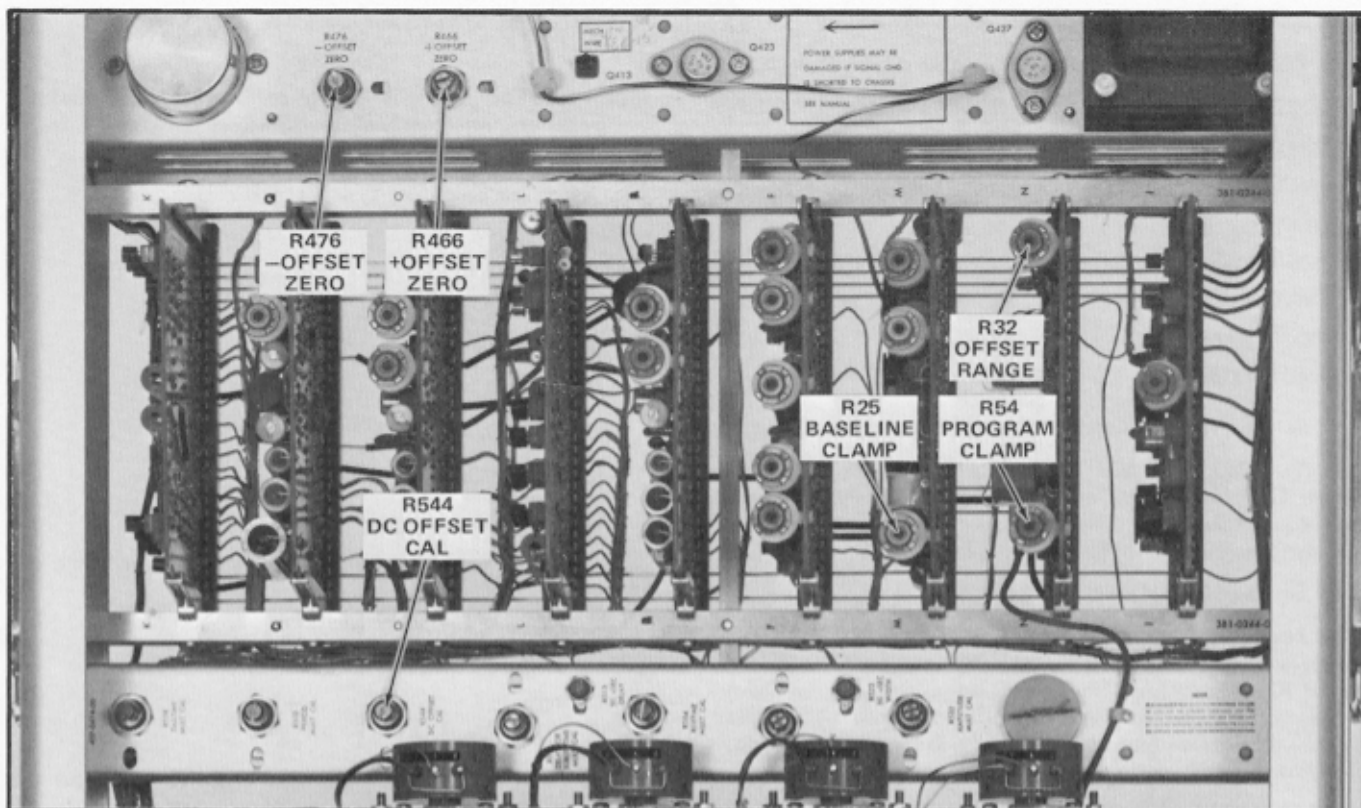

Fig. 6-7. Location of offset and baseline clamp adjustments on Attenuator and Output Amplifier circuit cards and on Type R116 chassis.
g. ADJUST—R32, the OFFSET RANGE adjustment on the Attenuator circuit card (see Fig. 6-7), if the offset range is not correct.
n. ADJUST—R466, the + OFFSET ZERO adjustment on the Type R116 chassis (see Fig. 6-7), if the offset level is not correct.
t. ADJUST—R476, the — OFFSET ZERO adjustment on the Type R116 chassis (see Fig. 6-7), if the offset level is not correct.
e. ADJUST—R25, the BASELINE CLAMP adjustment on the Output Amplifier circuit card (see Fig. 6-7), if the baseline level is not correct.
f. ADJUST—R544, the DC OFFSET CAL adjustment on the Type R116 chassis (see Fig. 6-7), if the display is not correct.
10. Adjust Offset Zero (+ Polarity) ❶
e. ADJUST—R466, the + OFFSET ZERO adjustment on the Type R116 chassis (see Fig. 6-7), if the baseline level is not correct.
11. Adjust + Amplitude ❷
f. ADJUST—R85, the RANGE CAL adjustment on the Pulse Shape Generator circuit card (see Fig. 6-7), if the pulse amplitude is not correct.
l. ADJUST—R532, the AMPLITUDE MULT CAL adjustment on the Type R116 chassis (see Fig. 6-7), if the display is not correct.
12. Adjust Amplitude and DC Offset (— Polarity) ❸